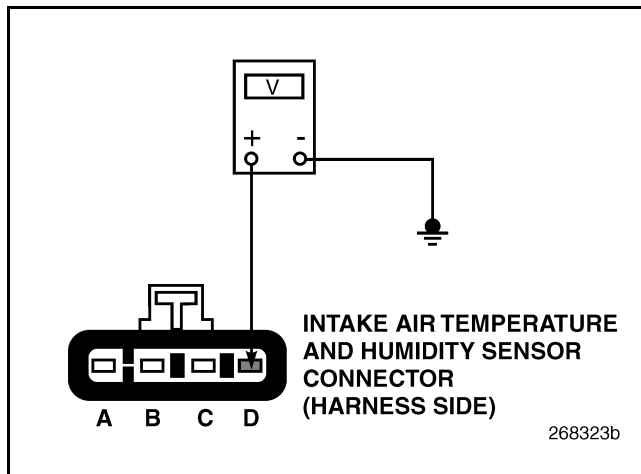

Figure 295
3. Measure the voltage between IATH Sensor harness connector pin D and a good ground (see Figure 295).